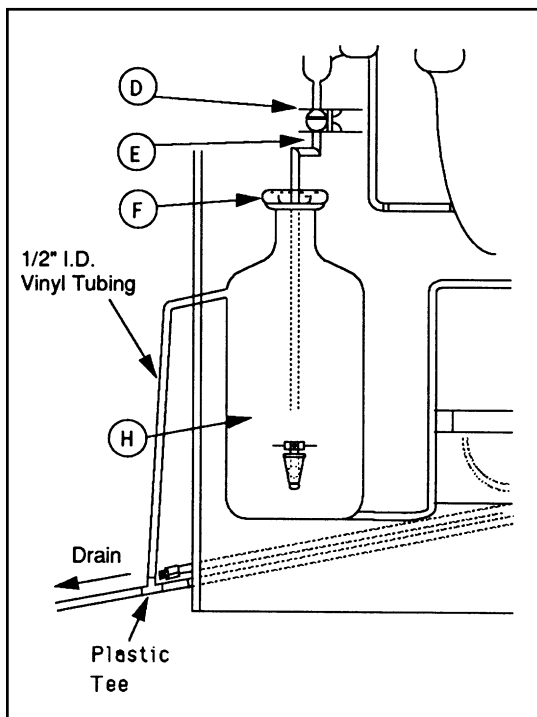

Figure 6
1. Place the bottle dust cover on the 3 1/2 gallon bottle and route the product delivery tube through the hole in the cover. Place this assembly inside the still cabinet below the condenser (B) and connect the product delivery tube to the condenser with clamp (D).
2. Locate the plastic tee (1/2 x 1/2 X 1/2) and the 20" length of 1/2" vinyl tubing in the parts box. Connect to the bottle overflow tubulation and drain as shown in Figure 6.